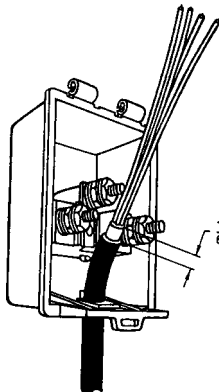

FIGURE 3
3.03 Remove inner core or core wrapper to expose primary conductors, leaving approximately 1/8" of core sheath or core wrapper extending beyond the end of the outer jacket. See Figure 3.